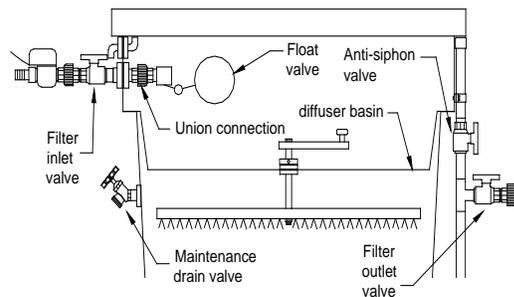

Figure 9-1
Step 2. Close the filter outlet valve (figure 9-1).